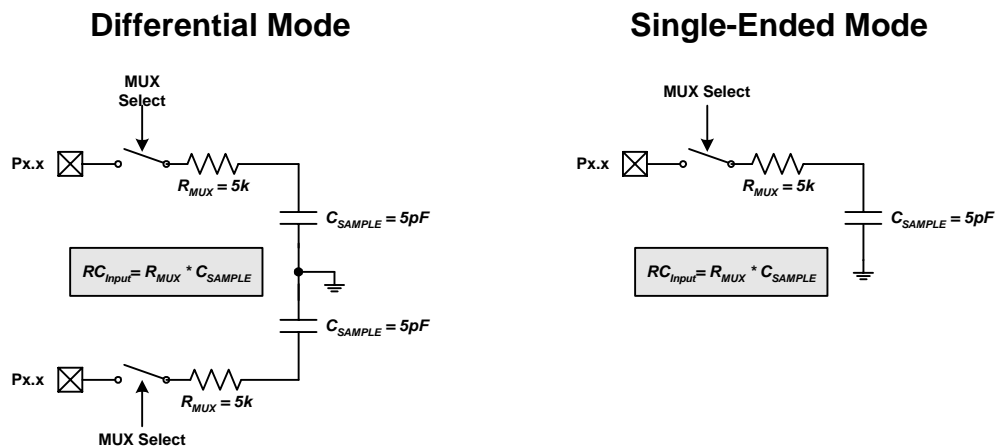

Figure 5.5. ADC0 Equivalent Input Circuits
Figure 5.5 shows the equivalent ADC0 input circuits for both Differential and Single-ended modes. Notice that the equivalent time constant for both input circuits is the same. The required ADC0 settling time for a given settling accuracy (SA) may be approximated by Equation 5.1. When measuring the Temperature Sensor output or VDD with respect to GND, R_{TOTAL} reduces to R_{MUX} . See Table 5.1 for ADC0 minimum settling time requirements.